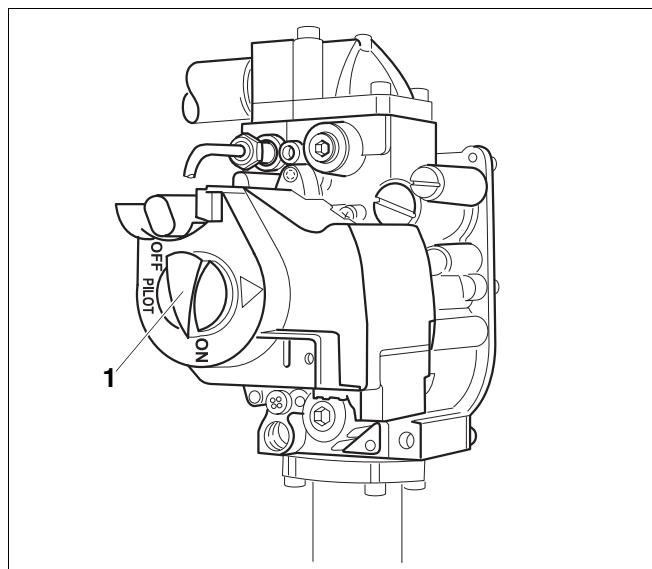

Fig. 31 GC124 SP gas valve
8. If the ignition burner continues to go out after several attempts, turn the ON/OFF knob on the gas valve to OFF immediately to prevent gas from leaking. Check ignition gas line for leaks with soapy water. If no leaks are found, continue with step 9. If leaks have been found, turn ON/OFF knob on gas valve (→ Fig. 31) clockwise to the "OFF" position.
10. The gas valve ON/OFF knob (→ Fig. 31) can only be set to ON if the red pilot ignition button is out. Turn main power switch of the heating system ON.